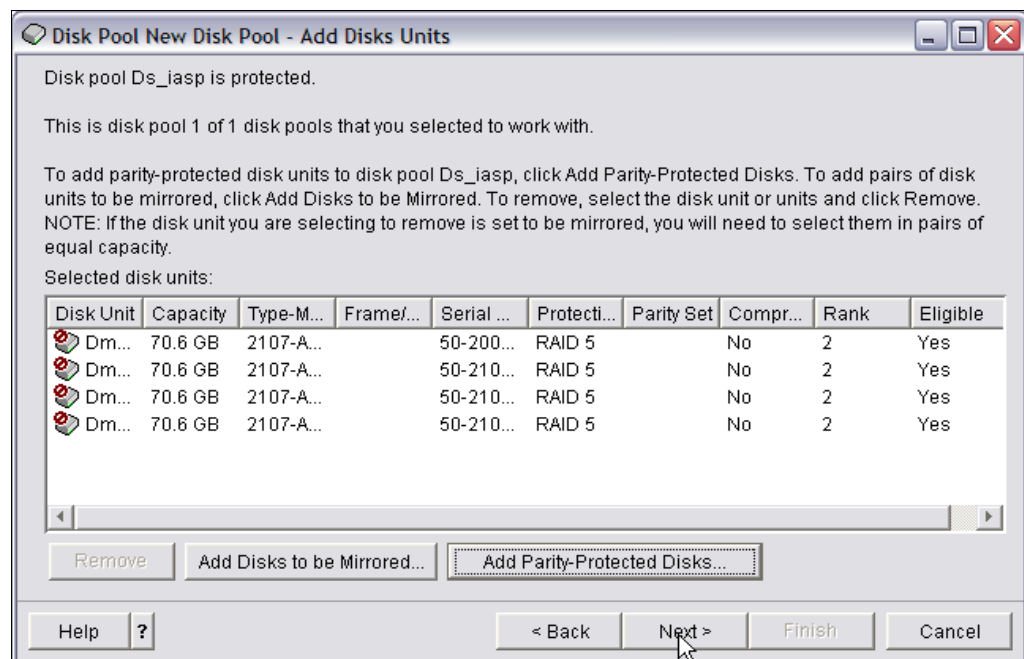

Figure 11-21 Confirming disks to add to disk pool
11. In the Disk Pool New Disk Pool - Add Disk Units window (Figure 11-21), click **Next**.